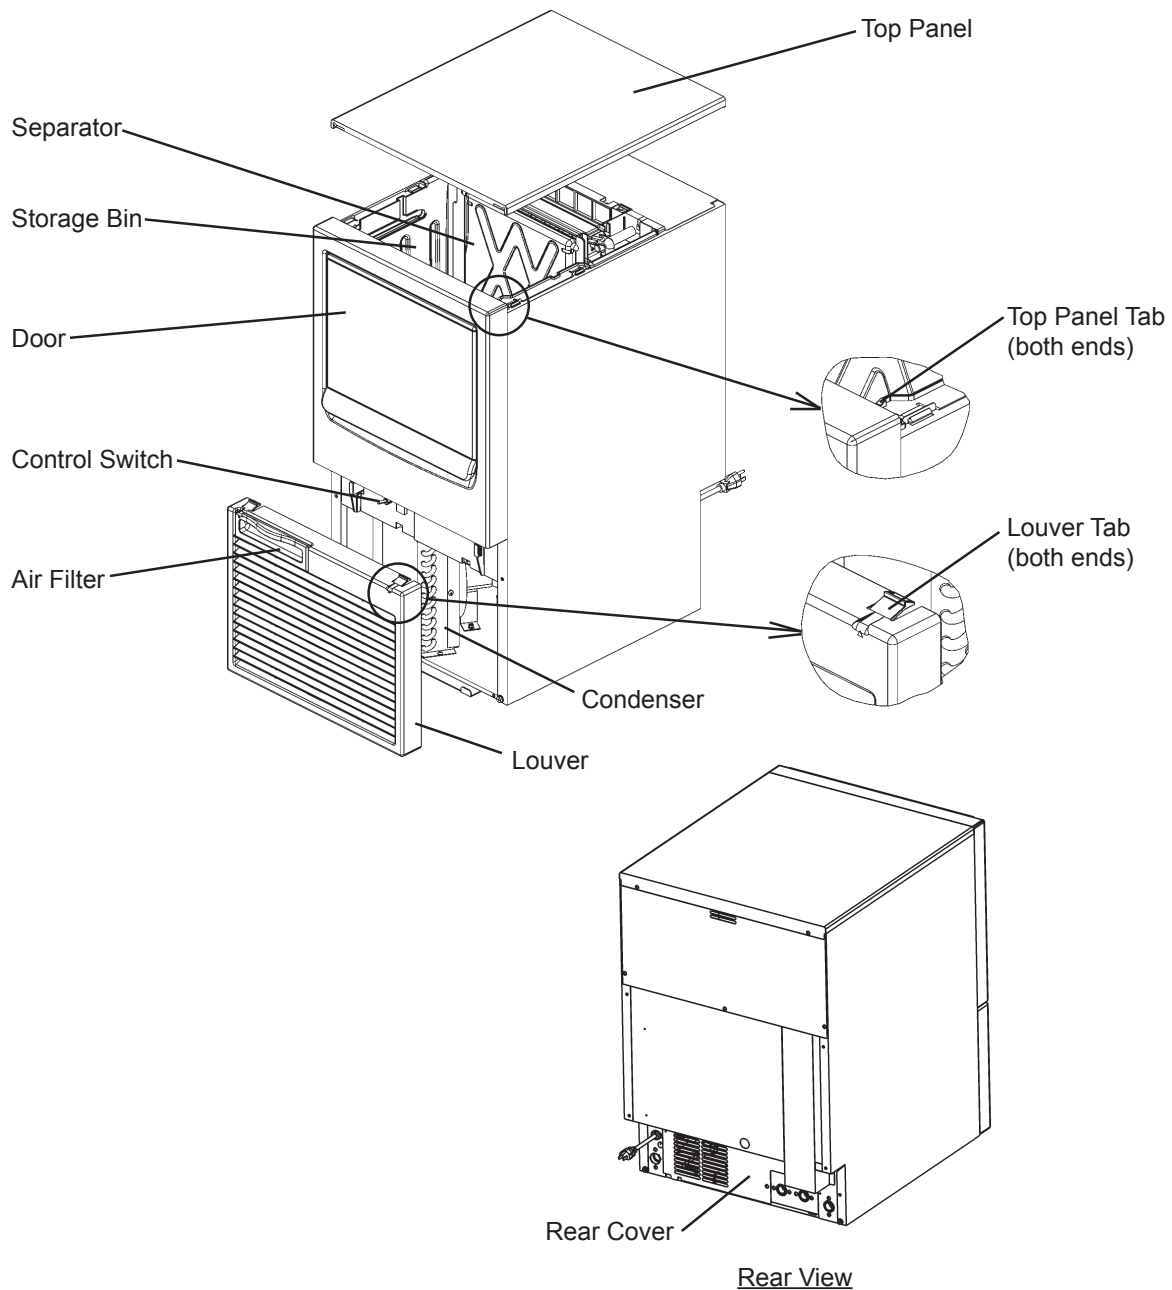

Fig. 1
- Remove the shipping tapes holding the door and separator. See Fig. 1.
B. How to Remove Panels - See Fig. 1